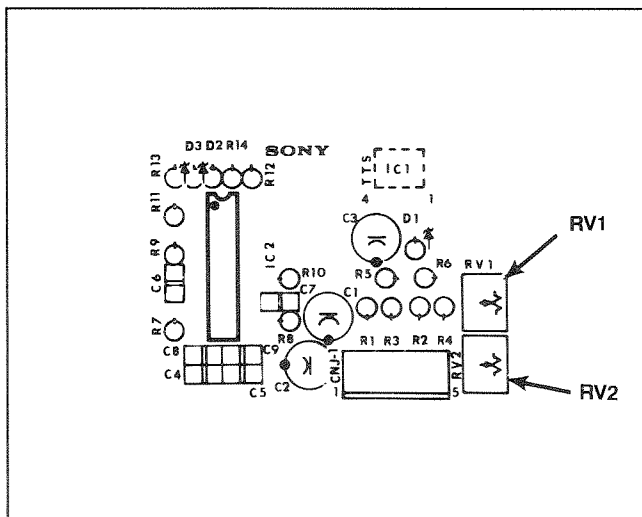

Figure 6-16. TTS PC Board
**STEP 5** If the duty cycle is not 50%, it will be necessary to adjust RV1 on the TTS board. (See Figure 6-16.) To access the TTS, it is necessary to remove the top front cosmetic cover (see Section 6.4.2).